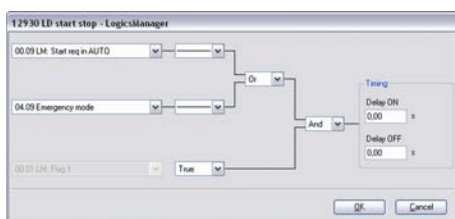

Fig. 186: LogicsManager function "LD start stop"
3. ➤ Configure the LogicsManager function "LD start stop" as shown in (Fig. 186) to enable LDSS if a start request in automatic operating mode or emergency mode are enabled.